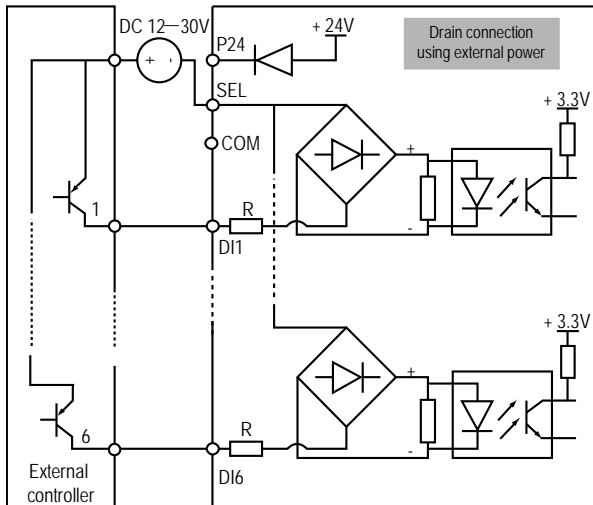

Figure 4-16 Drain input signal connection when using external power
2. If the external power supply is used, the drain connection is as shown in Figure 4-16. (Note that the SEL and the P24 are not short-circuited)